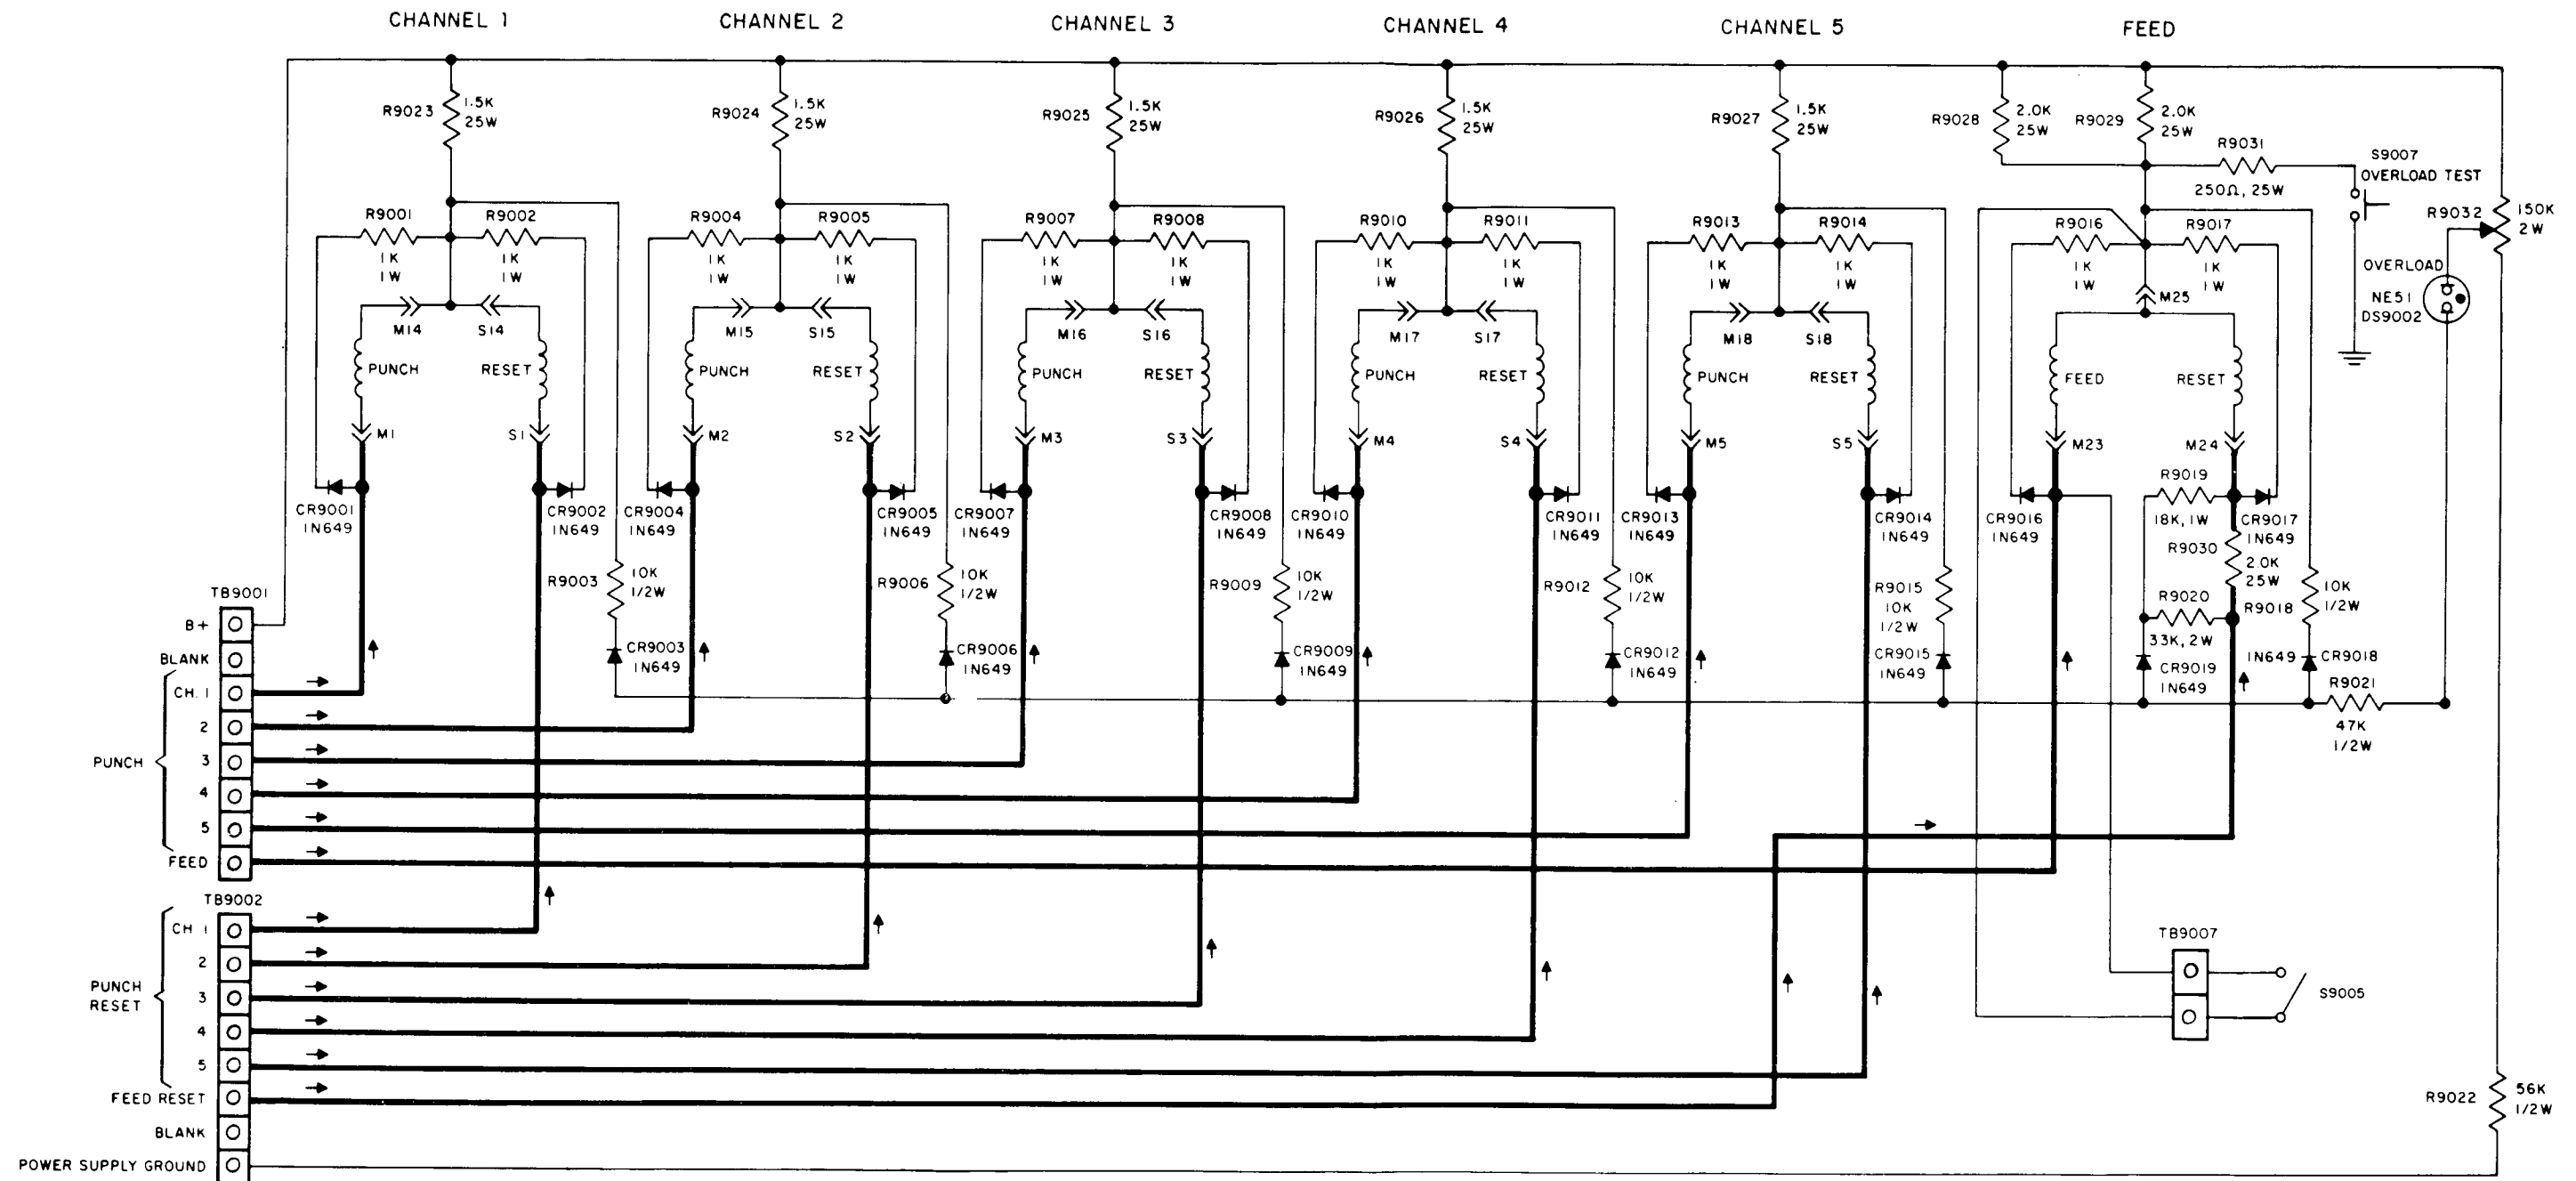
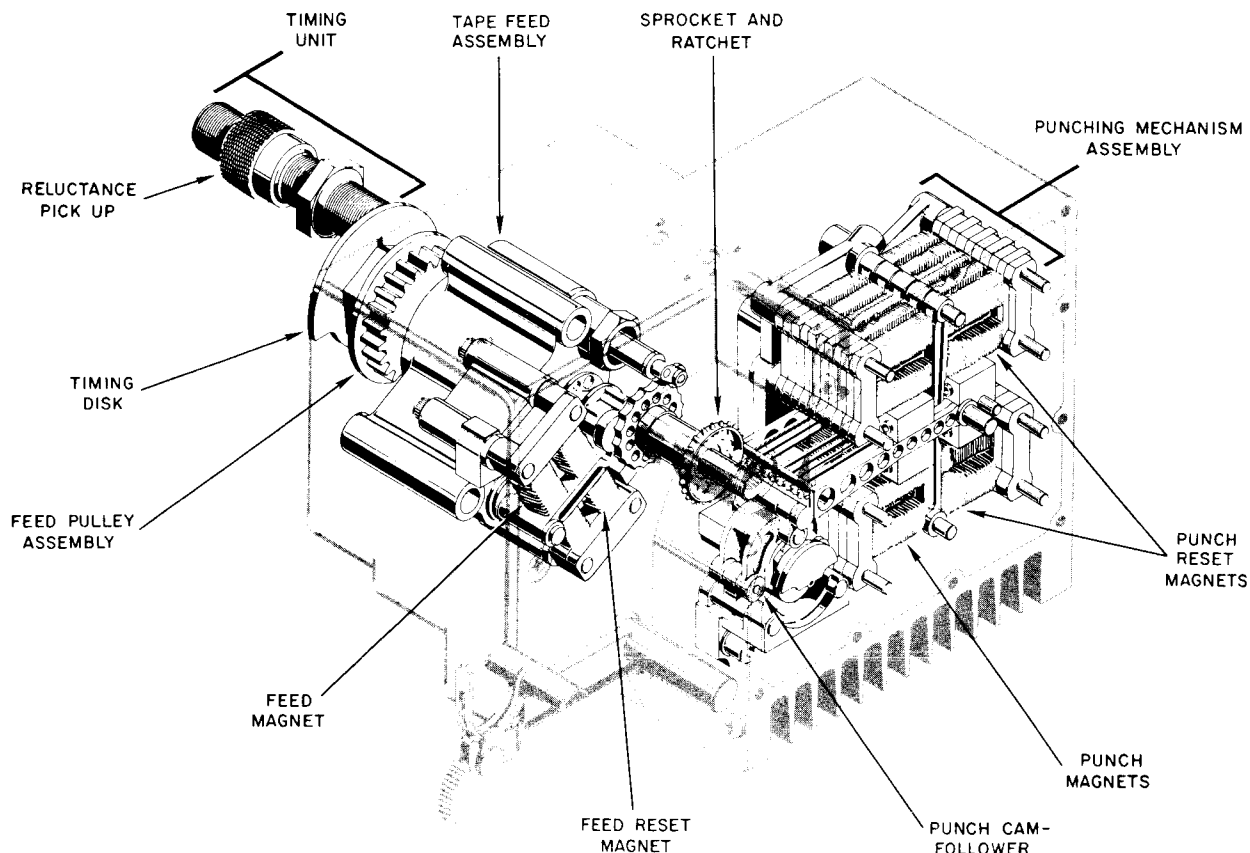

Figure 4-3. Perforator Input Circuit, Simplified Schematic Diagram
Figure 4-4. Perforator, Partial Phantom View
b. PERFORATOR INPUT CIRCUIT. - A complete schematic diagram of the input circuit is shown in figure 4-3. The input circuit serves to suppress sudden loading of the output circuits in the punch control, to dissipate surges through the perforator magnet coils, and to indicate an overload condition caused by a shorted or grounded magnet coil.
(1) Each of the punch and punch reset magnet input circuits in figure 4-3 is similar (except for resistor and silicon diode designations) for all five code channels. Resistor R9023 in channel 1 and comparable resistors in other channels prevent overloading of the output circuit of the punch control. The input to the perforator punch magnets is a minimum 85 milliamperere current pulse of 2.2 ± 0.11 milliseconds duration. Oscillations generated in the magnet coil and the distributed capacitance are suppressed by silicon diode CR9001 and resistor R9001 of channel 1 and comparable resistors and diodes in the other channels. The input to the punch reset magnets is an identical square waveform. Suppression of oscillations is through silicon diode CR9002 and resistor R9002 in channel 1 and comparable resistors and diodes in the other channels.
(2) A short circuit across the magnet coils, or the grounding of the coil, would overload the punch control output circuit. This overload would be indicated by the OVERLOAD indicator lamp (see figure 4-3) on the perforator front panel. The indicator lamp will light if the voltage at the junction of resistors R9003 and R9023 in channel 1 and comparable resistors in the other channels rises above a predetermined value. The voltage drop across the indicator lamp can be adjusted by variable resistor R9032. Silicon diode CR9003 in channel 1 and comparable diodes in other channels isolate the magnet coil circuits from the overload circuit.
(3) The suppressor circuit for the perforator feed magnet consists of silicon diode CR9016 and resistor R9016*. The input signal is a minimum 120-milliampere current pulse of 4.16 ± 0.208 milliseconds duration. The feed reset input signal is a minimum 40 milliampere current pulse of 4.16 ± 0.208 millisecond duration. Because of this lower current, the feed reset input circuit contains resistors R9019, R9020, and R9030 connected so as to produce the proper voltage drop across the overload indicator lamp in case of a short circuit or ground in the feed reset coil.
(4) The paper tape is threaded so that it rides against the actuator of the normally open switch S9005. In case the tape exerts tension against this actuator, or the tape supply is exhausted, the switch S9005 will close and short out the feed magnet. This will cause the perforator to stop feeding.
(5) Variable resistor R9032 must be set so that the voltage across OVERLOAD indicator lamp DS9002 will be sufficient to light the lamp when an overload condition exists. An overload condition is simulated by closing the overload test switch S9007. The variable resistor R9032 is then adjusted so that DS9002 does not glow when the perforator-reader is operating properly.
c. PERFORATOR. - The perforator (see figure 4-4) consists of three major functional assemblies. These are the tape feed assembly, the tape punching mechanism, and the timing unit.